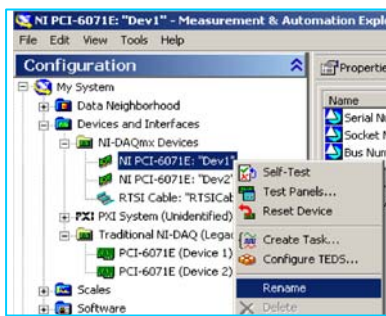

Figure. 1-19
5. Right-click [NI PCI-6071E “Dev1”], then click [Rename] (Figure.1-19)